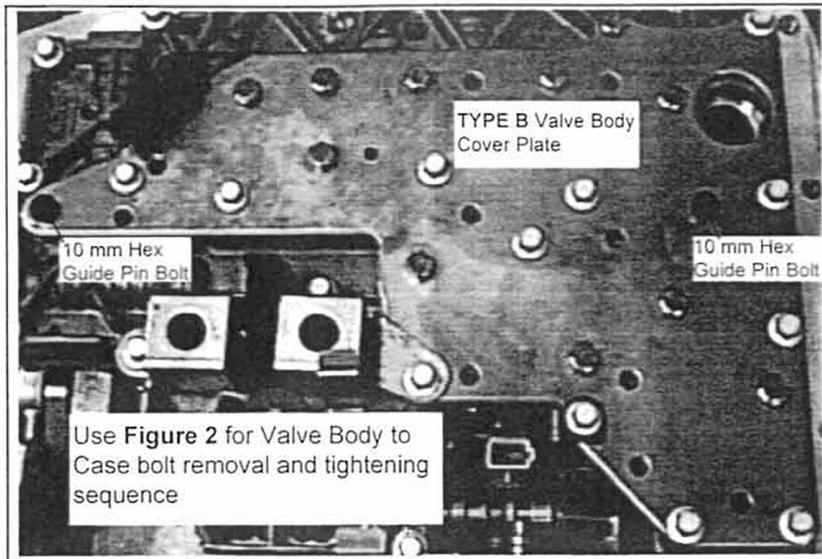

Figure 13. 1996-1999 (TYPE B) Valve Body Cover Plate
**Step 11. ('96-'99 TYPE B ONLY)** remove thirteen (13) 10mm hex head valve body cover plate bolts (See Fig. 13). Remove old gasket and replace with the new gasket from kit. Reinstall bolts and torque to 9-11 Nm (80-100 lb\*in). **Note:** If the two (2) Guide Pin Bolt Heads (See Fig. 2) are 13mm